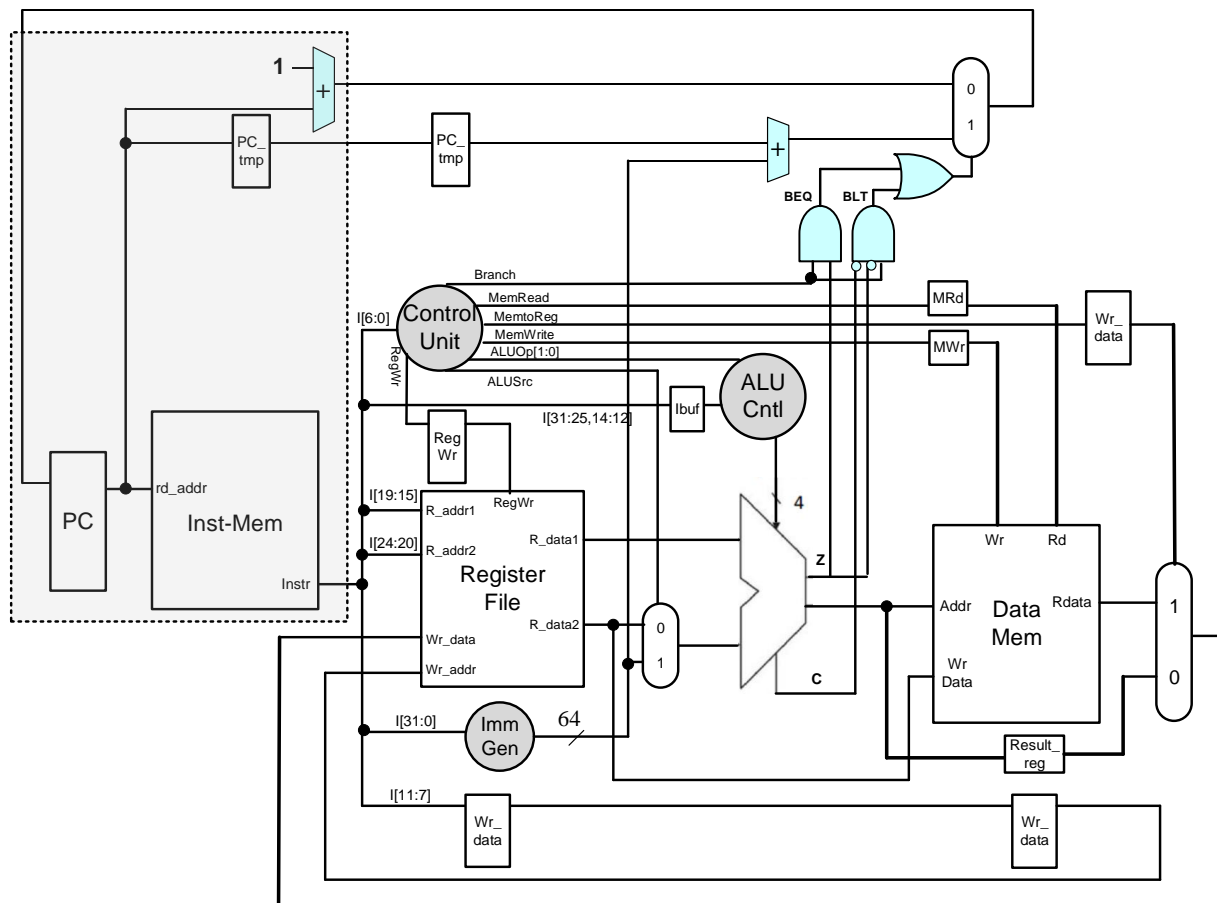

Fig.1: Datapath with Control-Flow Implementation (BNE not shown)
In Lab 4 we created a preliminary version of our RISC-V CPU which **only supported sequential instruction execution**. Practically, control-flow execution is a significant part of a program. Branch type instructions allow decisions to be made by a program, such as if-else conditions and loops, which require the PC to be re-directed to fetch the correct instruction on the next cycle. In this lab, we will implement datapath circuitry to support control-flow. Lab 4 will be amended to support the branch instructions Branch-if-Equal (beq), Branch if not Equal (bne) and Branch-if-Less Than (blt) as shown in Fig. 1. The original IF stage is provided in the shaded grey box.
To satisfy the BEQ instruction, two conditions must be met: 1) the control unit must assert a branch signal, and 2) the ALU must generate a zero flag after subtracting its two input operands. As seen in Fig. 1, if both conditions are met, the immediate value (PC) of the instruction may be forwarded from the “Imm Gen” unit, to the PC which loads the address. Thereafter, the BEQ flag will select the appropriate mux input. Recall the signals required to load the branch address into the PC unit from Lab 1. For BNE, if the zero flag is not asserted, the branch is taken (load PC with the immediate address).